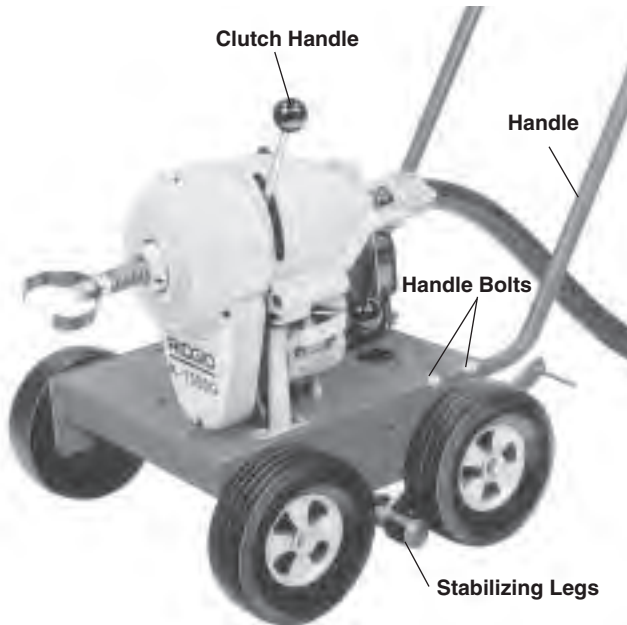

Figure 1 – K-1500G Drain Cleaner
1. Insert handle assembly into handle opening in base and attach by means of four 3/8" bolts provided (Figure 1).
3. Engage stabilizer legs to prevent movement of the machine (Figure 1).